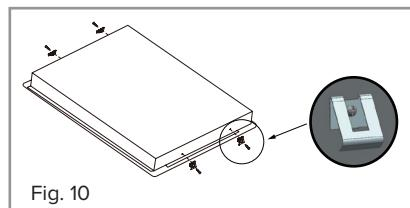

Fig. 10
3. Attach the four supplied fixing clips to the sides of the hob (Fig. 10).